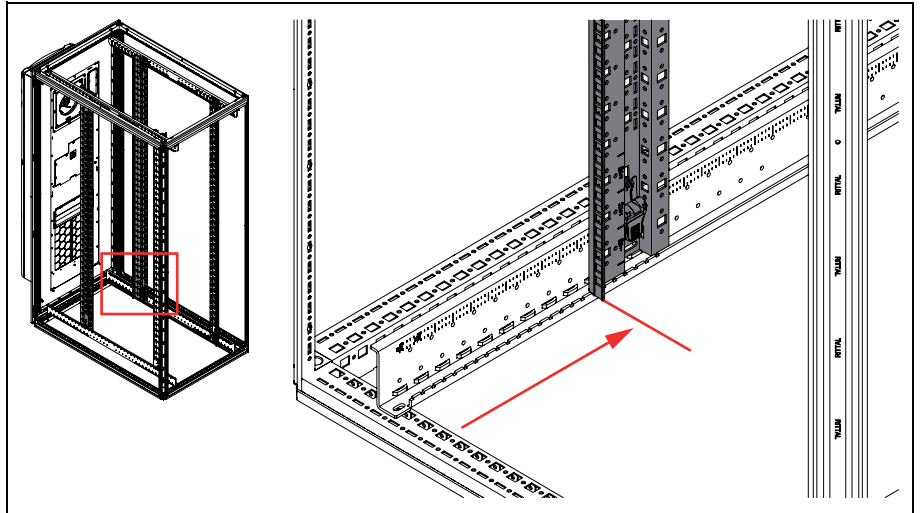

Fig. 3: Adjust the rear 482.6 mm (19") mounting angle
- Minimum distance from rear door to rear 482.6 mm (19") mounting angle: 250 mm (fig. 3).